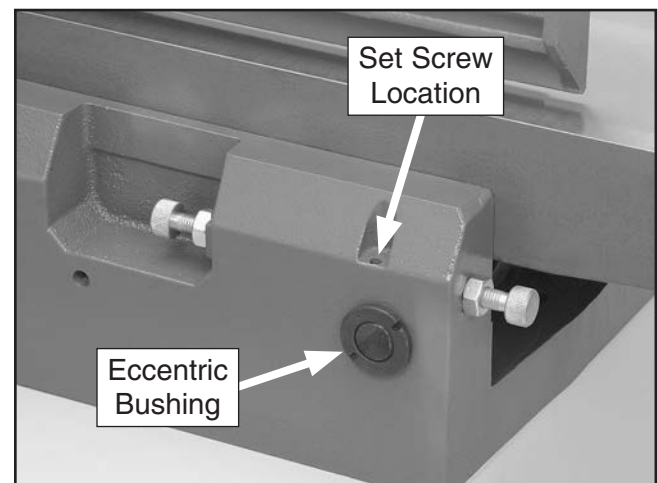

Figure 53. Eccentric bushing and set screw location.
2. Remove top set screw from each of the four eccentric bushings under outfeed table, and loosen set screws underneath those removed set screws (see **Figure 53**).